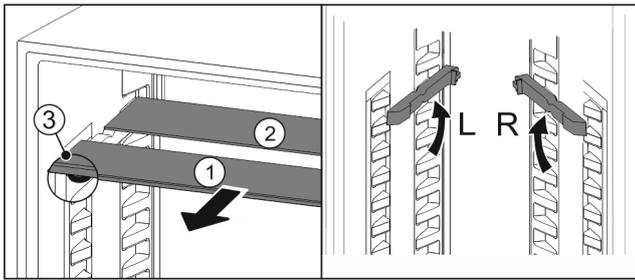

Fig. 53
- ▶ Pull the glass panels out Fig. 53 (1) from the front, one at a time.
- ▷ The glass panel Fig. 53 (1) with the trim strip is at the front.
- ▷ The stops Fig. 53 (3) point downward.